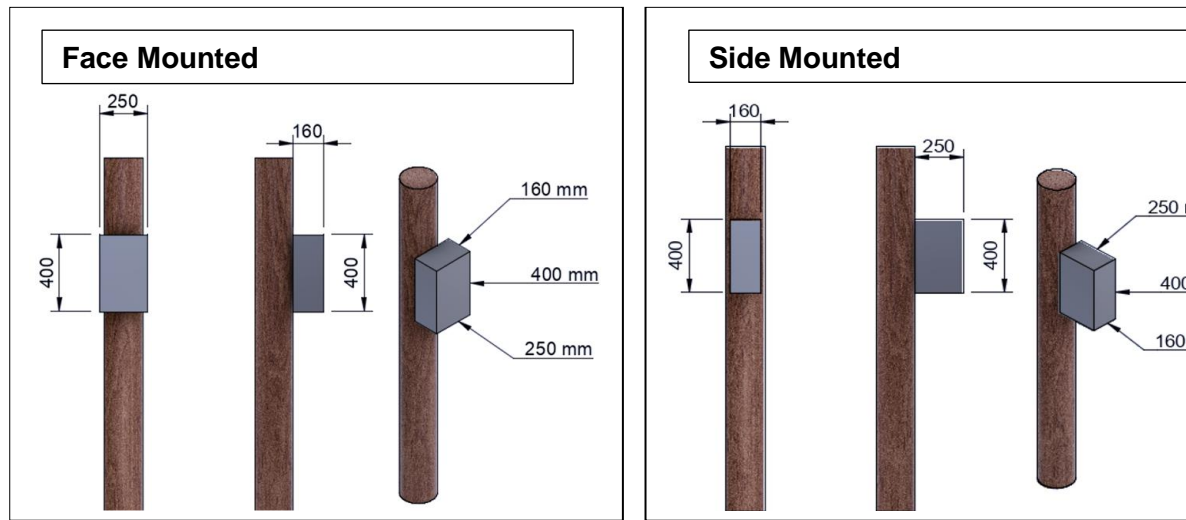

Figure 1: Maximum dimensions for any single CBT, Block Terminal, Box Connection and Coil Bracket system.
- Any single CBT, Block Terminal or Box Connection must not exceed the maximum dimension requirements shown in Figure 1 below.